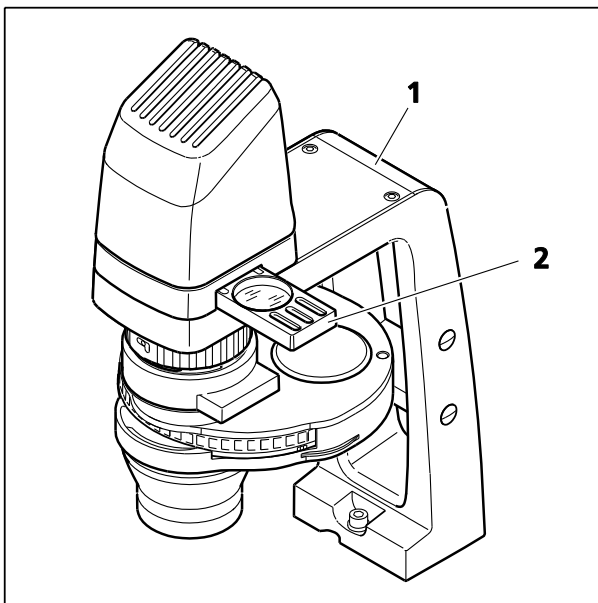

Fig. 2-19 Transmitted Light Filter Slider
- Alternately usable two-position transmitted light filter slider (Fig. 2-19/2) for $d=32$ mm filters (neutral density and conversion filters or shutter plate) fixed-mounted in the carrier (Fig. 2-19/1)